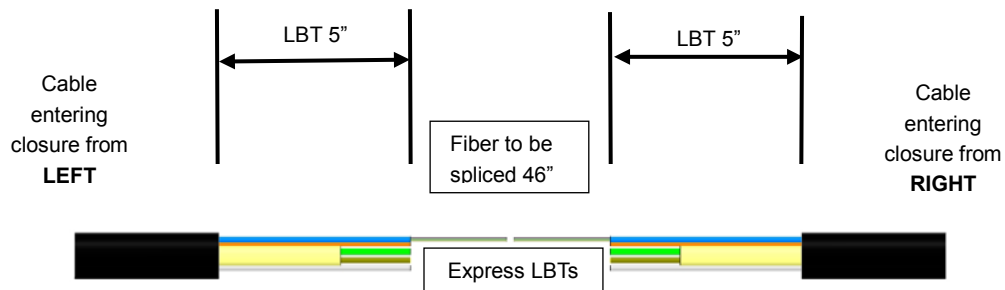

Figure 4
4.1.8 Create mid-span opening of LBT containing fiber to be spliced as follows: mark buffer tube 5" from the each end of sheath opening. Remove 46" of buffer tube between the two marks. See Figure 4.